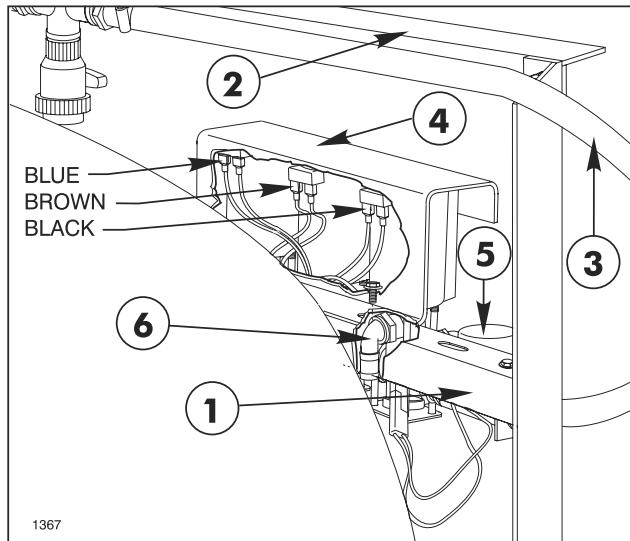

FIG. 15
1. Install three (3) 90° 3/4" Hose Barbs into the front outlet (wiring side) ports of Solenoid Valves. See FIG. 15.
3. Connect the plug on the 6' extension cable to the control valve, then make connections to the electric solenoid valves (black wire on the left solenoid, brown on the middle solenoid, blue on the right solenoid, and white jumper on all three solenoids. See FIG. 15.
5. Install Solenoid Valve and Bracket Assembly to the Bottom Cross Support as shown in FIG. 15. Secure with two (2) flange cap screws and Hex Flange Nuts. NOTE: If the Hydroject 4000 kit (Model 09850) has been installed or will be installed, it is necessary to remove and discard top Cross Support Angle and put the Bottom Cross Support Angle in its place. A hole will have to be drilled to mount the Tee Assembly Bracket on the relocated Bottom Cross Support.